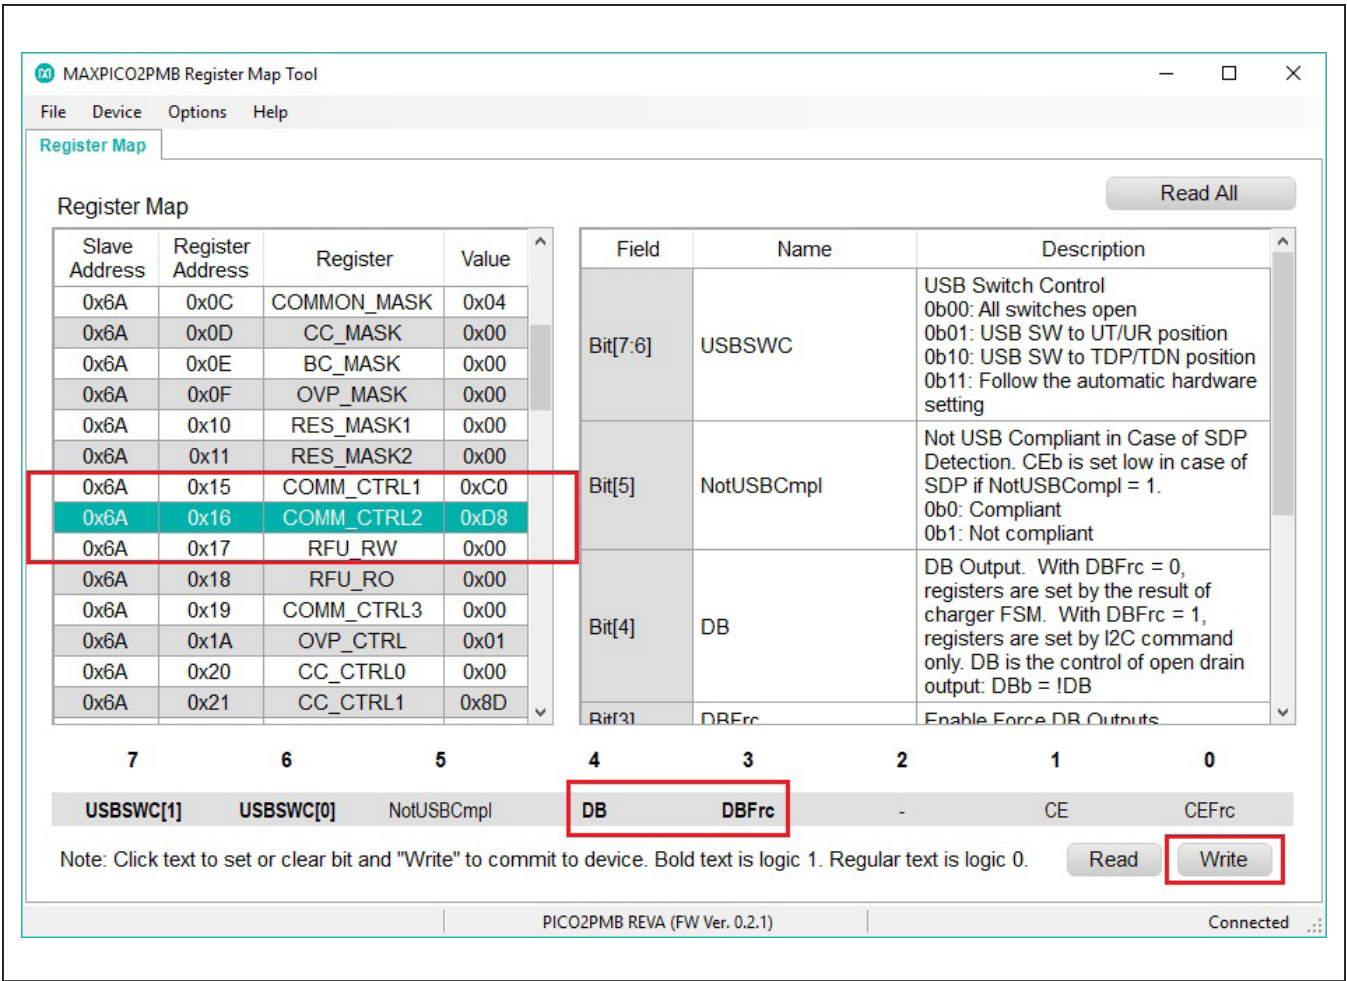

Figure 10. An Example of Setting Bits with the MAX20342 Regmap
- 3) Go to Register Address 0x16 COMM_CTRL2 and locate bit 3 (Enable Force DB Output). Click on the **DBFrc** bit so it becomes bold and click **Write** to set this bit. Locate bit 4 (DB Output) and set this bit. LED D6 of the MAX20342EVKIT turns red (see Figure 10).